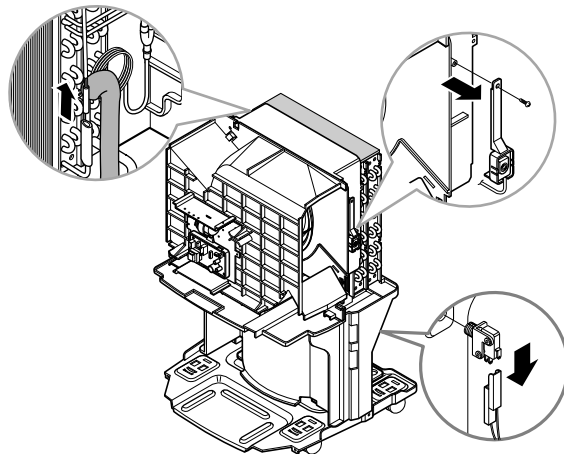

Figure 14
2. Remove a screw which fastens the humidity sensor. (See Figure 14)
3. Remove the thermistor from holder sensor. (See Figure 14)
4. Disconnect housing from micro switch assembly. (See Figure 14)